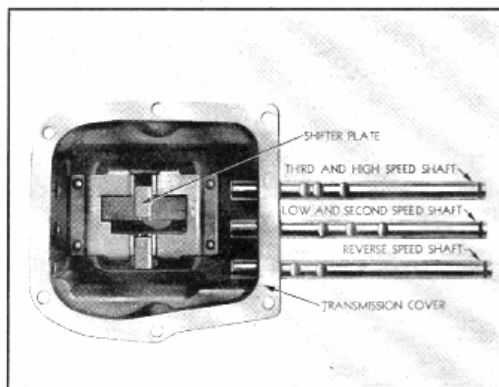

Fig. 8—Shifter Shaft Assembly
1. In reassembling the transmission cover, care must be used in installing the shifter shafts. They should be installed in the order shown in Fig. 8, namely reverse speed, low speed and high speed.